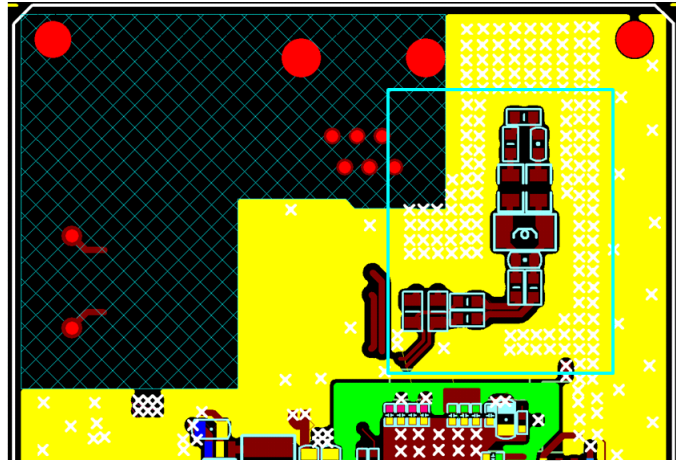

Figure 3.7: Line Driver Bottom Layer Layout.
- R260,R275,R261,R272,L2,C235,L12,L15,L3,L4,C233,R263,L1,R265,R270 place on bottom layer as shown in Figure 3.7.